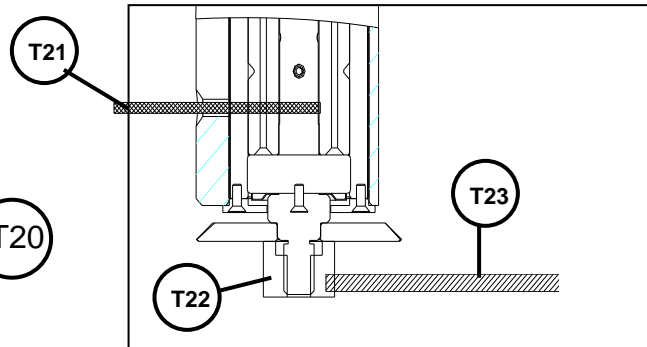

Fig.48
- 5) Insert the blocking rod (T21), included in the accessories box. (Fig.48)